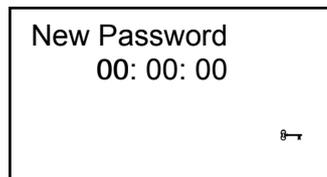

Figure 48. Display of New Password Entry
- As described previously in section 7.4, the password consists of three numbers and each number can be set in turn (when it is highlighted) by using the '▲' and '▼' keys and once set the 'ENTER' key is used to move on to the next number as shown in figure 48.